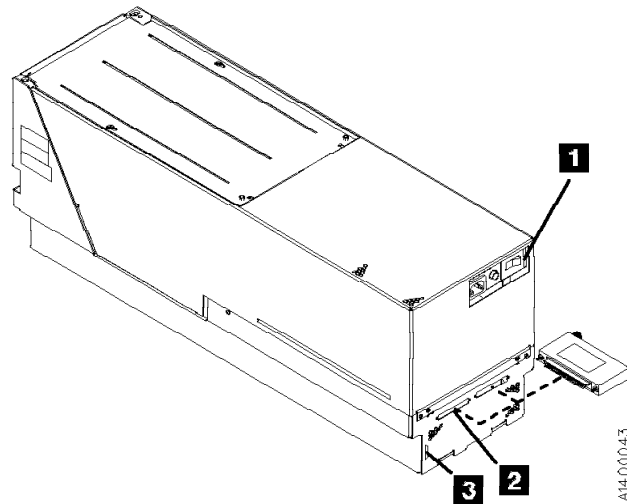

Figure 270. Installing SCSI Wrap Tool (Rear View)
- ___ 1. See Figure 270 Be sure that the power switch **1** is in the OFF position.